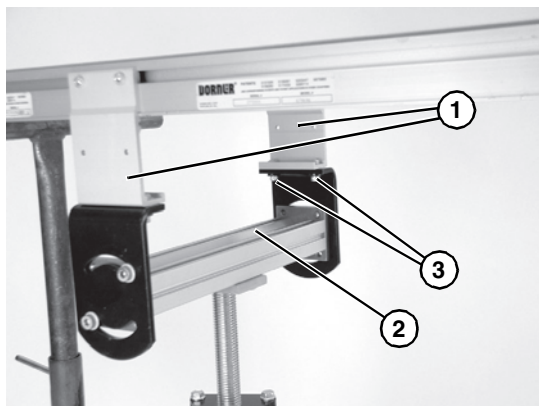

Figure 22
- Lower conveyor supports (Figure 22, item 1) onto mounting bracket (Figure 22, item 2). Attach conveyor supports to bracket with hardware (Figure 22, item 3).
<p>Failure to secure screws (Figure 22, item 3) may cause conveyor sections to drop down, causing severe injury.</p> <p>TIGHTEN ALL SCREWS (Figure 22, item 3) AFTER ADJUSTMENT.</p>
- Tighten fastening hardware (Figure 22, item 3) to 100 in-lb (11 N-m).